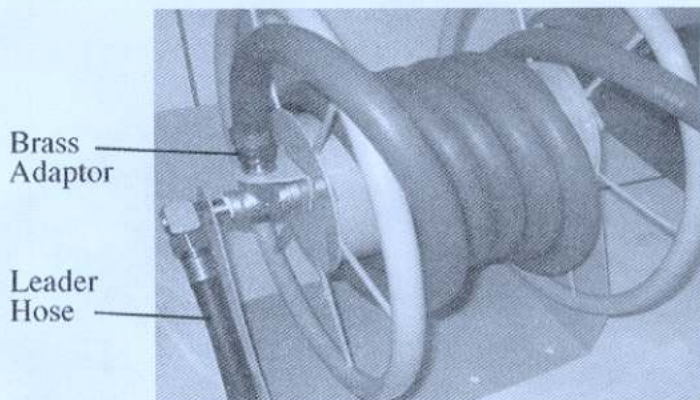

Figure 7
- Attach Rubber Handle (J) to crank arm using supplied handle bolt and nut. Tighten securely.
- Attach the Leader Hose (F) to the end of swivel assembly. DO NOT OVERTIGHTEN.
- Attach your garden hose. The HW300 is designed to hold up to 300 feet of 5/8" hose. Attach your hose to the Brass Adaptor as seen in figure 7.